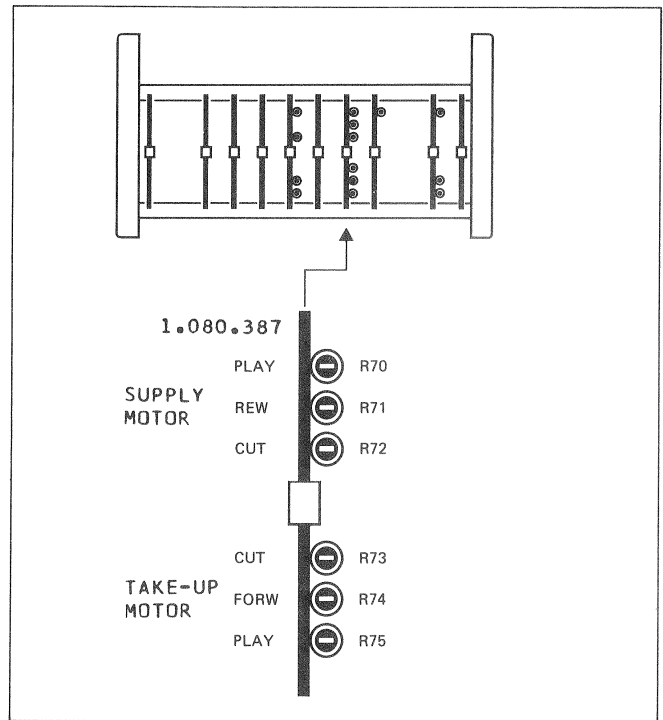

Fig.4.3
Adjustments -> Fig.4.3/4.6/4.7
-> Fig. 4.3/4.8